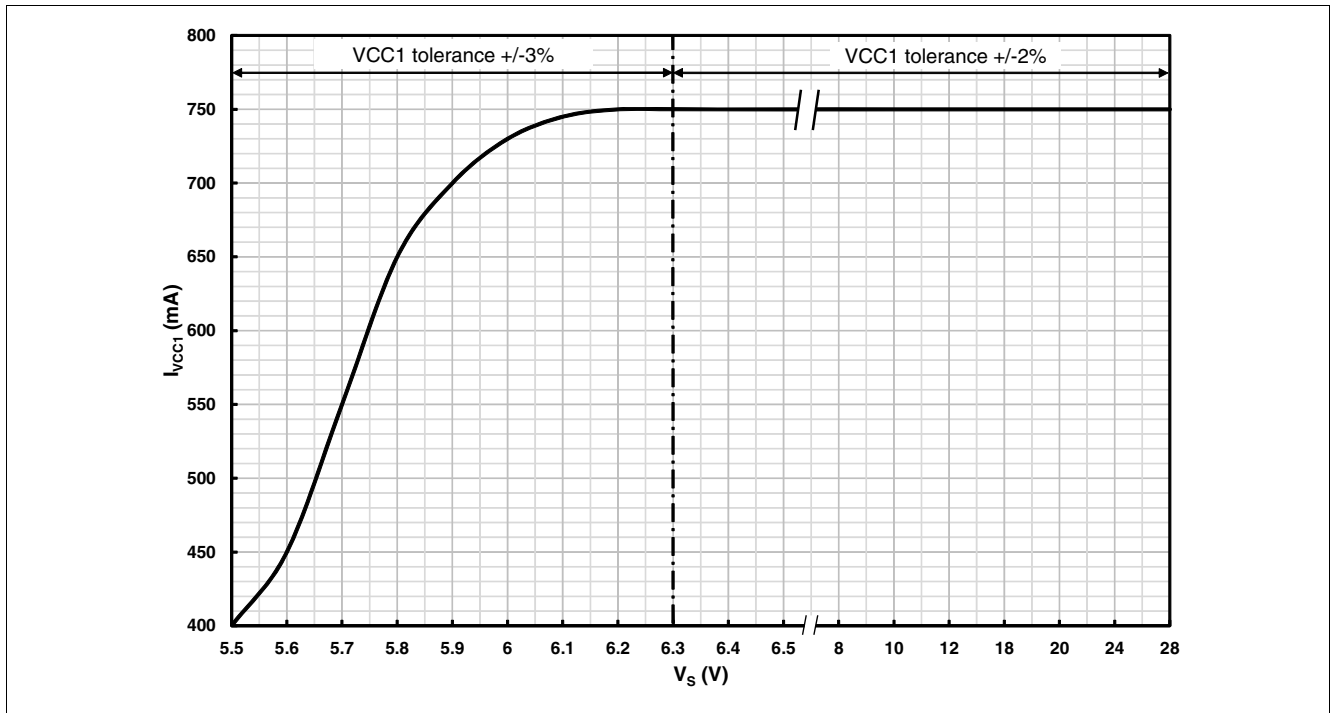

Figure 13 Maximum DCDC buck current capability versus VS.
- 1) Typical maximum current capability is given in Figure 13. The external components are in accordance with the application information (refer to Chapter 15).
Note: The **Figure 13** is based on characterization results over temperature with external components specified in **Chapter 15.1**.